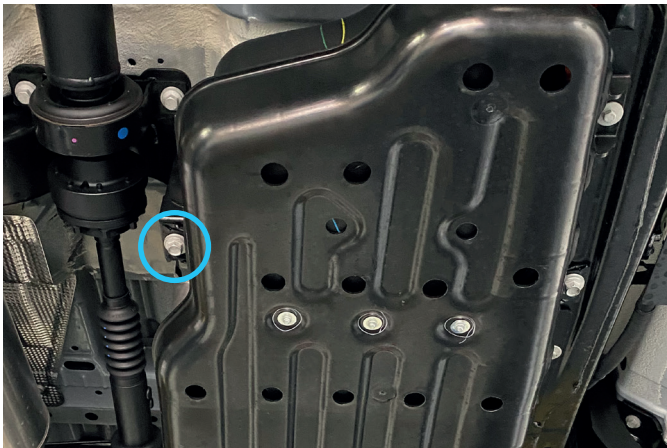

Fig. 1
1. Loosen front right factory bolt as shown in fig.1.